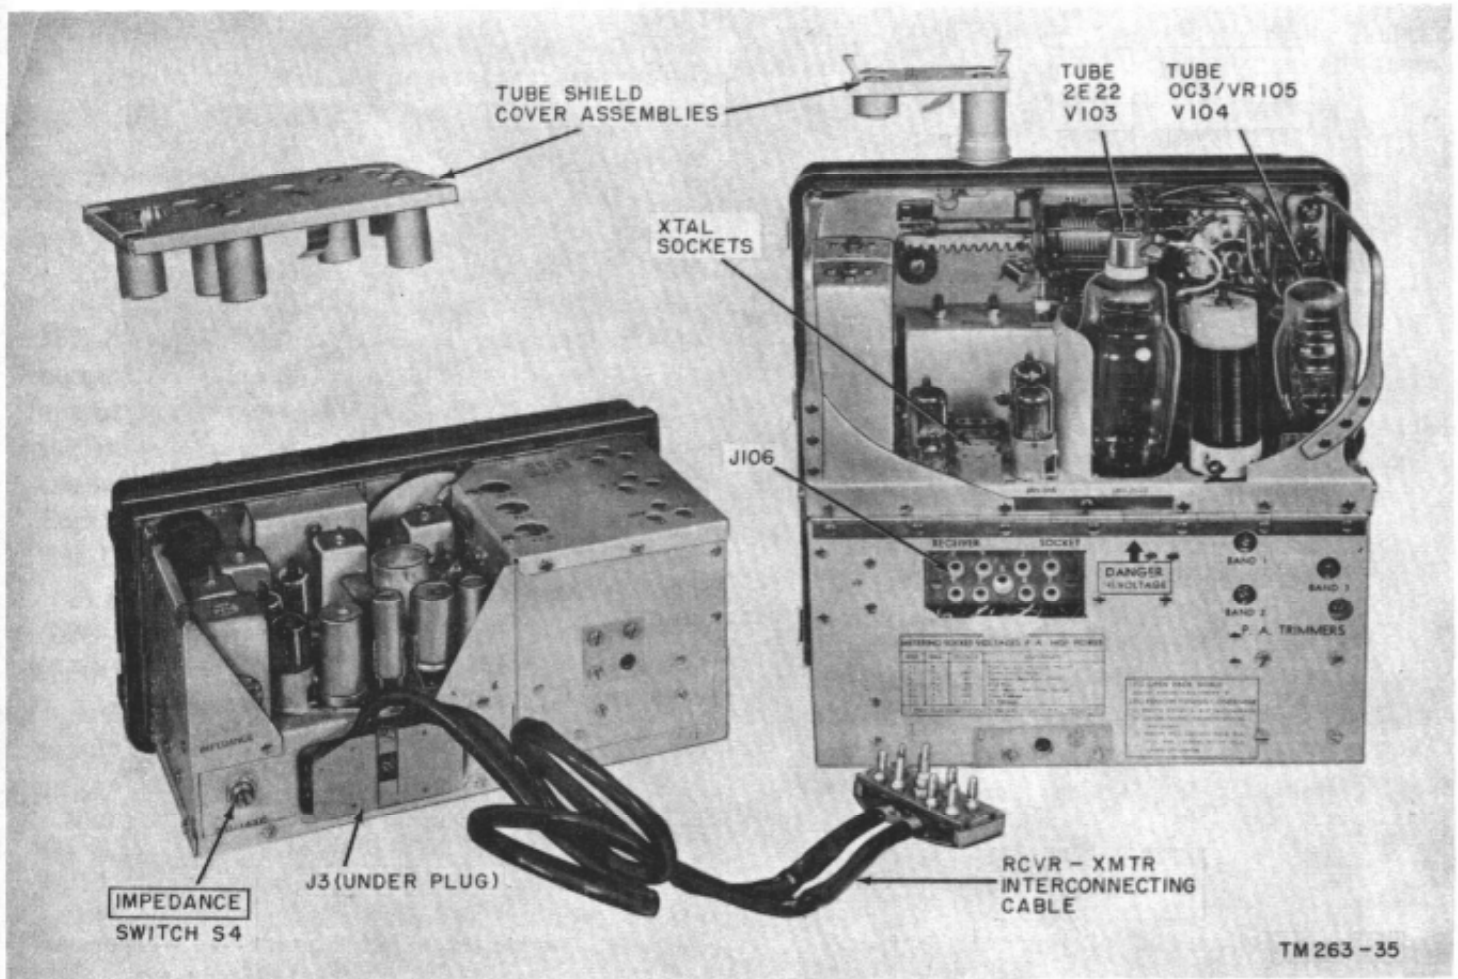
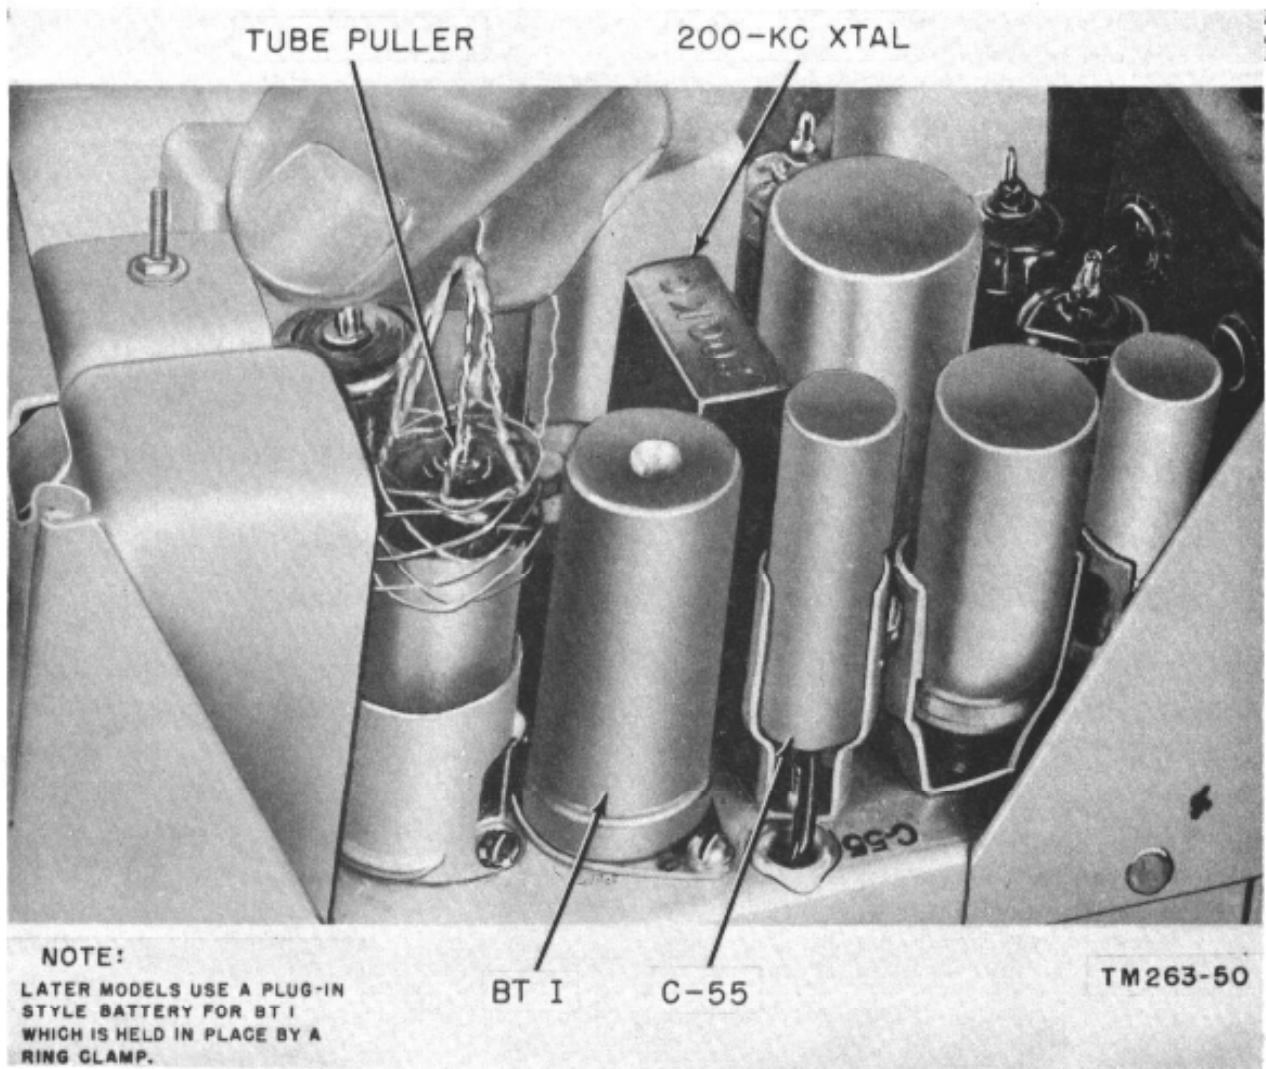
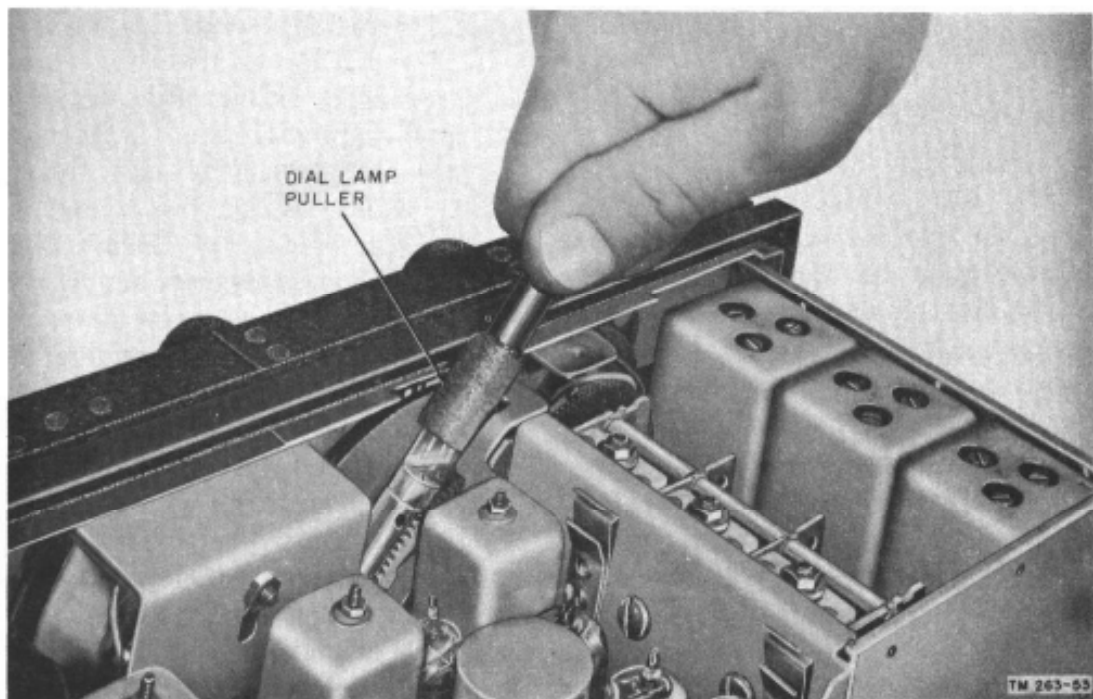

Figure 30. Rear view of radio set out of its case.
Figure 31. Removing tubes using tube puller.
Figure 32. Removing dial lamp using pilot lamp puller.
- (b) Lift the cover straight up without tilting it. This is necessary to avoid any damage that may occur if the tube shields (fig. 30) are forced sideways, pushing any tube which is in
(fig. 30), and then place the receiver on the operating or testing bench. The tubes and crystal are located beneath a single metal tube shield cover plate, which is removed without the aid of tools.
(4) If a tube has to be removed (fig. 31), use the tube puller provided with the radio set. Refer to paragraph 65b(1) for the removal procedure.
(5) Insert or replace tubes and crystal as necessary in accordance with the tube layout chart on the side of the receiver.
(6) There are seven tubes; each one will fit into its socket in only one position. Do not jam the tube in the socket. Rotate the tube gently, until the tube prongs are lined up with their corresponding socket holes; then press the tube straight down into its socket.
(7) Only one crystal is in the receiver. To remove it, insert a screwdriver between bias cell BT1 and capacitor C55 (fig. 31) and gently pry the crystal upward, and, at the same time, pull it with the fingers.
(8) Bias cell BT1 used in earlier equipment is wired into the circuit by two solder connections. Later models use a bias cell holder and plug-in style Battery BA-1293/U. The holder contains a socket with a 2-pin female receptacle, which mates with 2 male plug-in pins on the battery. A ring clamp, tightened by a screw on one end, encircles the battery unit when it is plugged in. The socket is wired into the circuit beneath the chassis in the same manner in which the old battery was connected. For information on modification procedures, refer to MWO SIG 11-263-1, Modification of Radio Set AN/GRC-9 to Provide an Improved Mercury Biased Cell.
(9) The dial light lamp may be removed (par. 65b(5)) by using the dial lamp puller (fig. 32).
(10) If the transmitter section is to be
(2) Install tube 2E22 in its socket (fig. 30) as described in a(6) above.
(3) The voltage regulator tube VR105, V104 (fig. 30) can be removed after removing the safety clamp around the base of the tube. Refer to paragraph 65b(3) for further instructions pertaining to this clamp.
(4) Tubes V101, V102, and V105 (fig. 120) and crystals 1A, 1B, 2A, 2B, 3A, and 3B are located under a small tube shield cover plate (fig. 30). The cover plate can be removed by releasing the spring catches at both ends of the plate and lifting straight upward. The tubes and crystals are then easily accessible. The tubes can be removed as shown in figure 31.
(5) If the transmitter is shipped without crystals, remove the tube cover plate as described in (4) above. Plug the crystals in their proper sockets as shown on the cover plate. The choice of a crystal depends on the operating frequency, refer to paragraph 22f for the crystal frequencies available. Because a frequency doubler circuit is used in the transmitter, the transmission frequency will be twice the natural frequency of the crystal. Therefore, if it is desired to trans-
a. *Installation of Generator GN-58 (*)* (fig. 32). The generator power supply is used to supply power to the receiver-transmitter during ground operation. The generator power supply
The separate receiver and transmitter sections are connected by the receiver-transmitter interconnecting cable (fig. 30), which is secured (in some units) to the metal case behind these sections. Refer to paragraph 32b(6) for instructions to connect this cable. No other cords or cables are used between these sections. See B, figure 54 for the wiring diagram of the cable and its connectors.